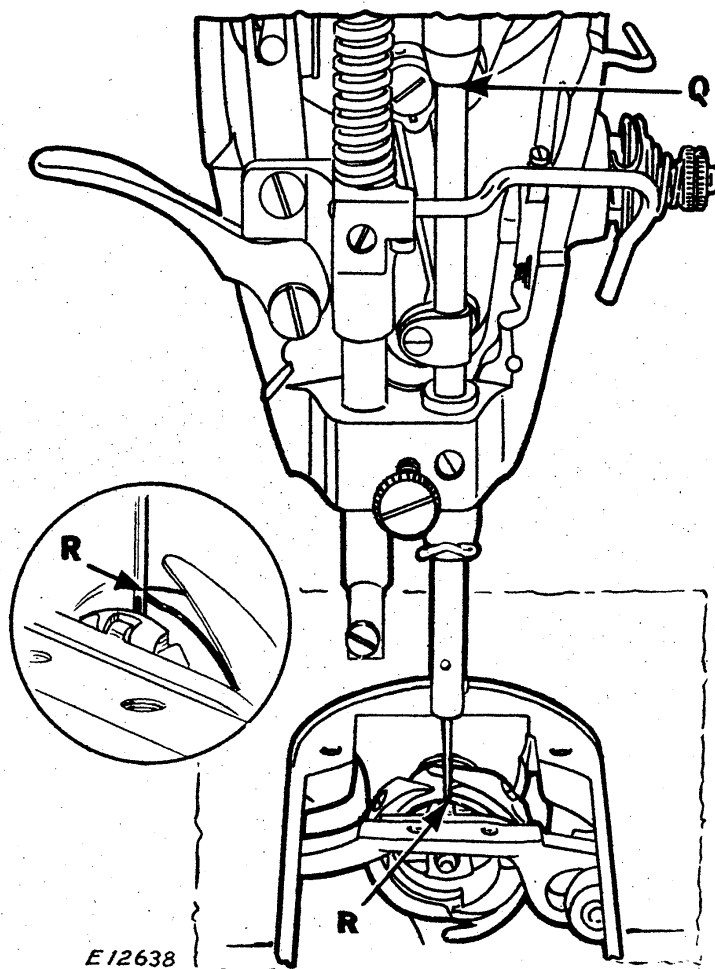
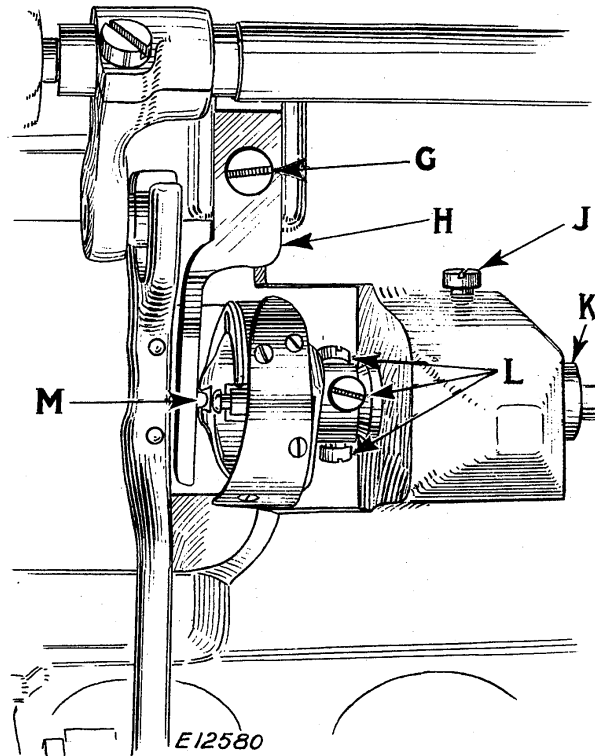
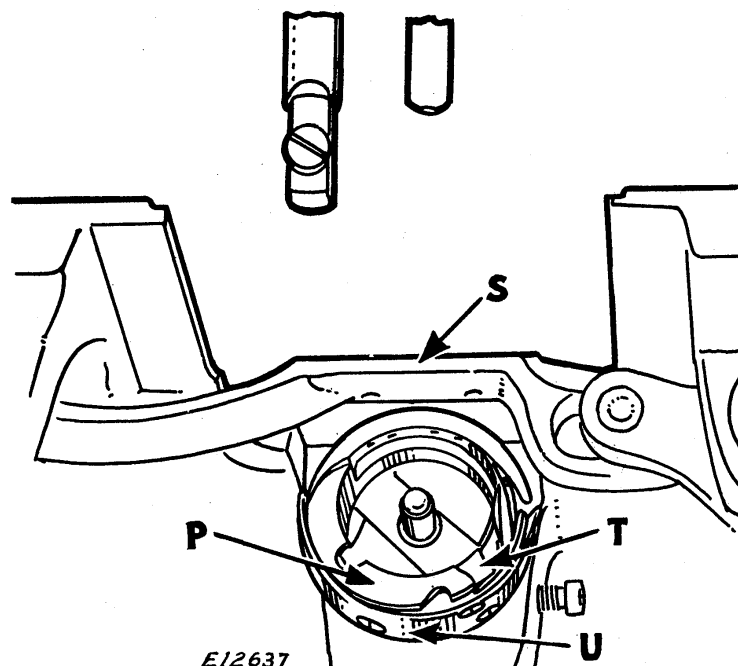

Fig. 21. Needle and Sewing Hook Correctly Timed
Fig. 22. View of Underside of Machine
Fig. 23. Showing Correct Position of Thread Guard (U) and Bobbin Case Holder (P) for Removal of Sewing Hook
To determine that the hook is correctly timed, place a new needle in the machine, then turn the balance wheel over toward you until the LOWER TIMING MARK on the needle bar is centered with the lower end of the needle bar bushing as shown at (Q, Fig. 21), when the needle bar is on its upward stroke. With the needle bar in this position, the point of the hook should be at the center of the needle as shown at (R, Fig. 21). The inset in circle at the left of Fig. 21 plainly shows this position of the hook point relative to the needle.
In case the hook is not correctly timed, loosen the three screws (L, Fig. 22) in the hub of the hook. These three screws can be reached from the top of the machine bed through the open-
ing left by the removal of the throat plate, although, for purposes of illustration, the screws are shown only in the view of the underside of the machine in Fig. 22. Rotating the balance wheel of the machine will bring these screws, one at a time, directly under the throat plate opening where they can be easily reached with a screwdriver from the top of the machine bed.
After loosening the three screws (L, Fig. 22) turn the hook on its shaft to bring the point of the hook at the center of the needle as shown at (R, Fig. 21), then tighten the three screws (L, Fig. 22).
The hook should be set as close as possible to the needle without touching. If the hook is too close to the needle or too far away from it, loosen the three screws (L, Fig. 22) and the bushing screw (J, Fig. 22) and drive the bushing (K, Fig. 22) in or out, as may be required, until the hook just clears the needle, being very careful not to damage the bushing, then securely tighten the bushing screw (J) and the three screws (L).
Remove the needle, slide plate and bobbin case. Take out the screw (G, Fig. 22) and remove the bobbin case holder position
bracket (H, Fig. 22). Loosen the three set screws (L, Fig. 22) in the hub of the hook, then turn the balance wheel over toward you until the feed bar (S, Fig. 23) is raised to its highest point. Turn the sewing hook until the thread guard (U, Fig. 23) is at the bottom, as shown in Fig. 23, and turn the bobbin case holder (P, Fig. 23) until it is in the position shown in Fig. 23. The sewing hook can then be removed from the hook shaft.
When placing a new sewing hook on the shaft, have the thread guard (U) of the hook at the bottom and the bobbin case holder (P) turned to the position shown in Fig. 23, so that the hook will clear the feed bar (S).
When the hook is in position on the shaft, turn the bobbin case holder (P, Fig. 23) until the notch (T, Fig. 23) is at the top, then replace the bobbin case holder position bracket (H, Fig. 22) being careful to see that the position stud (M, Fig. 22) enters the notch at the top of the bobbin case holder, as shown in Fig. 22,
then securely fasten the position bracket by means of the screw (G, Fig. 22). Replace the needle and time the sewing hook as instructed on pages 17 and 18. When tightening the three screws (L, Fig. 22) in the hub of the hook, draw the hook shaft toward the needle bar end of the machine and press the hook toward the balance wheel to take up the end play in the shaft. Then replace the bobbin case and slide plate.